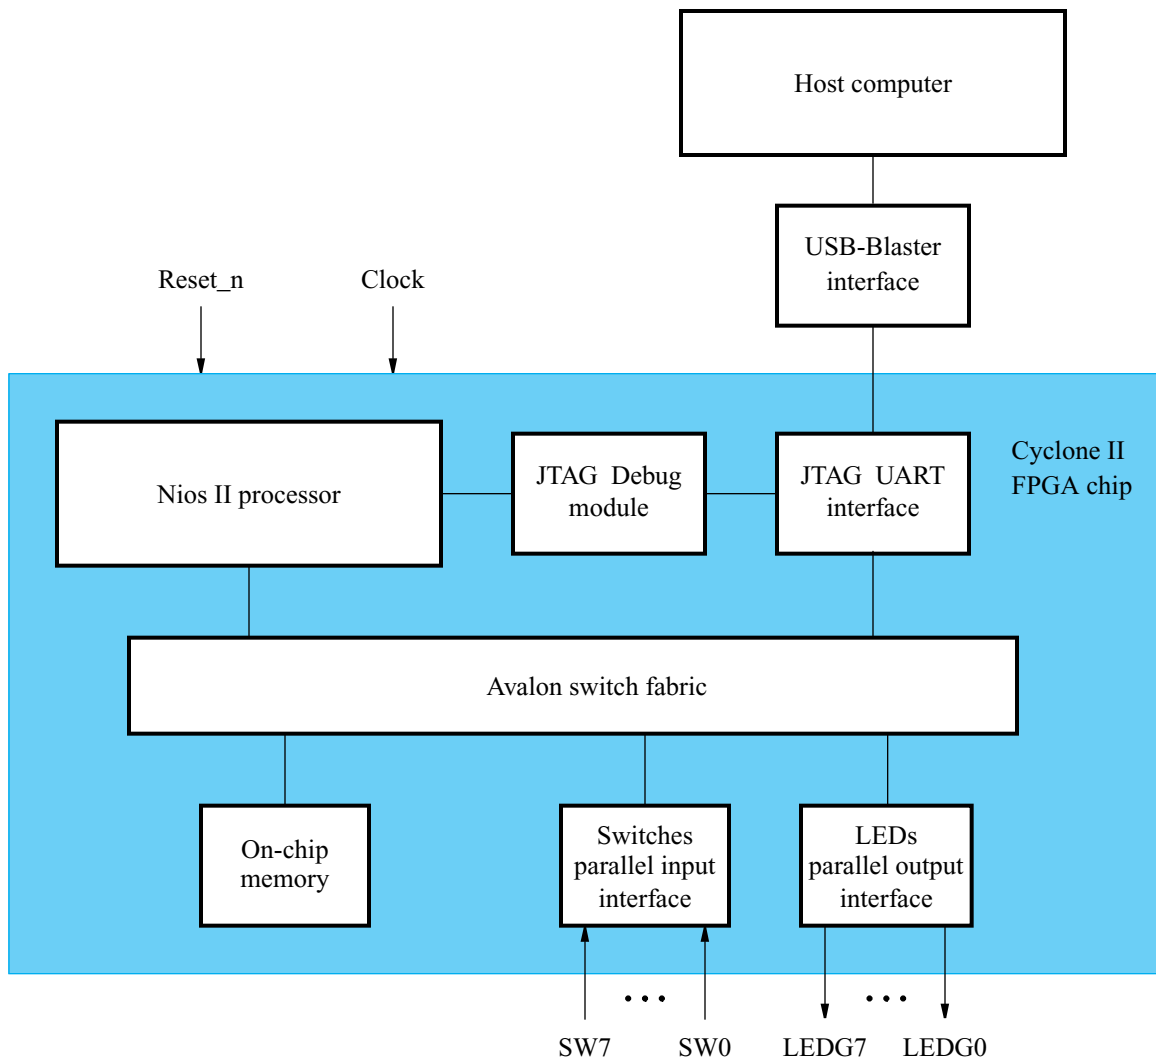
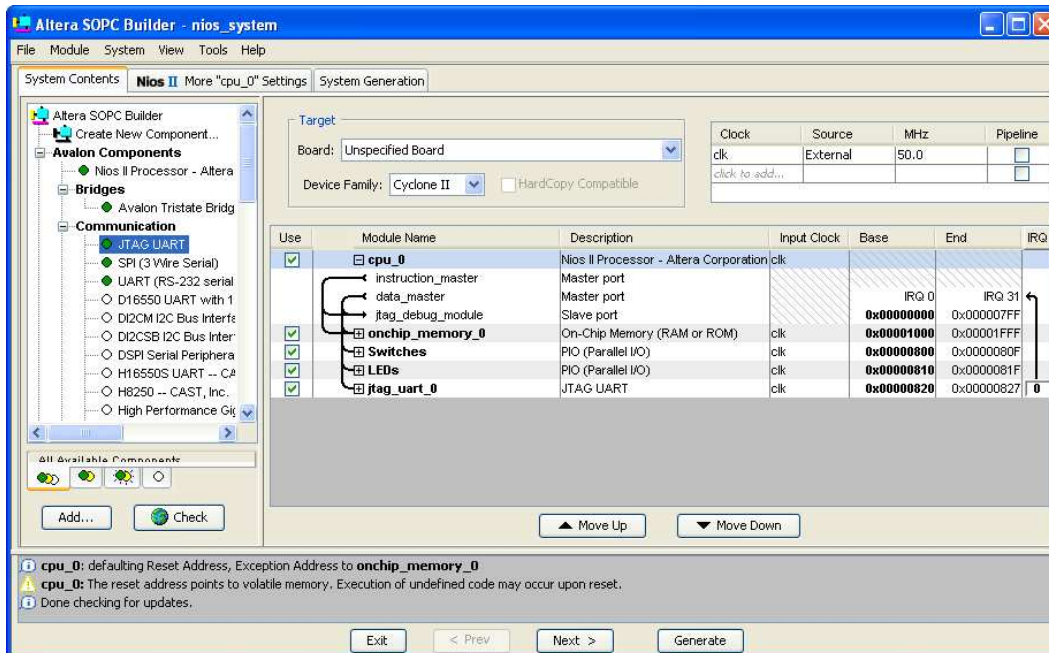

Figure 2. A simple example of a Nios II system.
Figure 13. The complete system.
Our example system is given in Figure 2. The system realizes a trivial task. Eight toggle switches on the DE2 board, $SW7 - 0$, are used to turn on or off the eight green LEDs, $LEDG7 - 0$. The switches are connected to the Nios II system by means of a parallel I/O interface configured to act as an input port. The LEDs are driven by the signals from another parallel I/O interface configured to act as an output port. To achieve the desired operation, the eight-bit pattern corresponding to the state of the switches has to be sent to the output port to activate the LEDs. This will be done by having the Nios II processor execute a program stored in the on-chip memory. Continuous operation is required, such that as the switches are toggled the lights change accordingly.
We will use the SOPC Builder to design the hardware depicted in Figure 2. Next, we will assign the Cyclone II pins to realize the connections between the parallel interfaces and the switches and LEDs which act as I/O devices. Then, we will configure the FPGA to implement the designed system. Finally, we will use the software tool called the *Nios II Debug Client* to assemble, download and execute a Nios II program that performs the desired task.
The SOPC Builder is a tool used in conjunction with the Quartus II CAD software. It allows the user to easily create a system based on the Nios II processor, by simply selecting the desired functional units and specifying their parameters. To implement the system in Figure 2, we have to instantiate the following functional units:
10. The complete system is depicted in Figure 13. Note that the SOPC Builder automatically chooses names for the various components. The names are not necessarily descriptive enough to be easily associated with the target design, but they can be changed. In Figure 2, we use the names Switches and LEDs for the parallel input and output interfaces, respectively. These names can be used in the implemented system. Right-click on the pio_0 name and then select Rename. Change the name to Switches. Similarly, change pio_1 to LEDs.